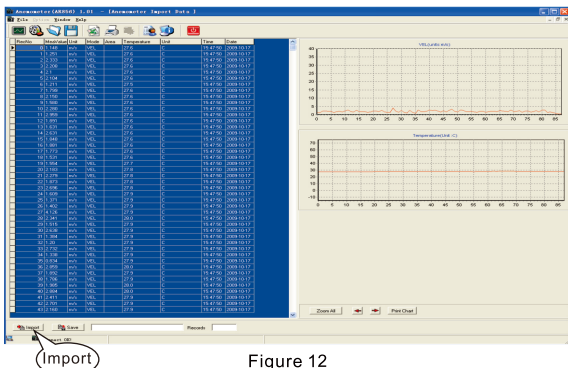

Figure 12
- 7) Download of measurement data: Click "Import Data" under the "File" menu or on the toolbarkey to enter the measurement data download interface, click the "Import" key below to import the data stored in the main unit of the instrument into the computer, the interface is as shown in the figure12: